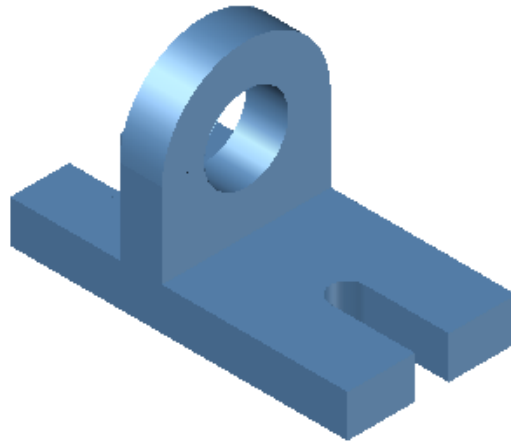

Figure Step 25
Step 25 Set the current visual style to Realistic. (Figure Step 25)